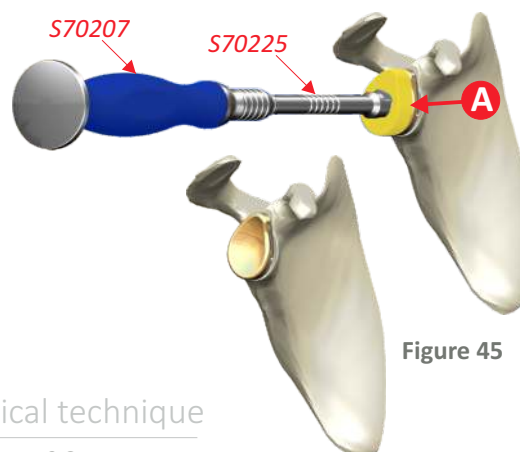

Figure 45
The *Glenoid Insert* is then impacted using the corresponding size *Glenoid Insert Impacting End (A)* mounted onto the *Universal Impactor Handle S70225* fitted onto the *Silicone impacting handle S70207* (Figure 45).